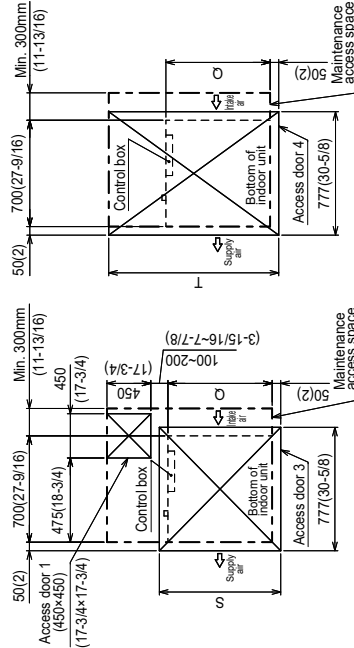

Fig. 4 [Viewed from the direction of the arrow Y]
- Create access door 1 diagonally below the control box and access door 3 below the unit as shown in Fig. 4.